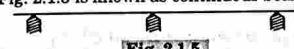

Fig. 2.1.5.
5. **Continuous Beam :** A beam which is provided more than two supports as shown in Fig. 2.1.5 is known as continuous beam.